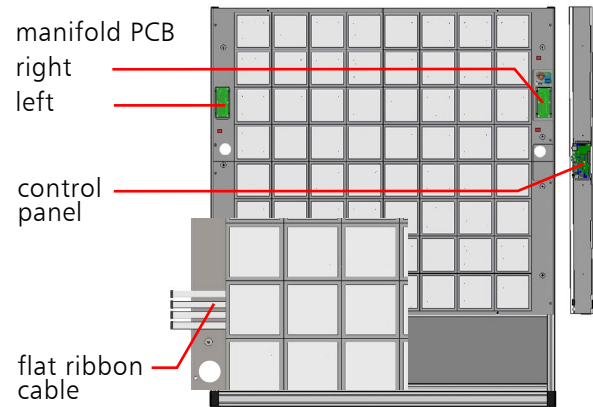
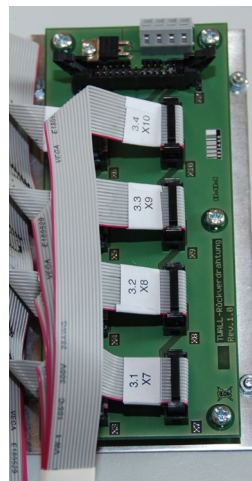

fig. 3.1-31
fig. 3.1-32
**Step 24** You can find four (4) **14-stranded** flat ribbon cables at each basic module to connect them to the manifold PCBs (**fig. 3.1-32 and 3.1-33**). The cables are marked as 0.1 - 0.4, 1.1 - 1.4, 2.1 - 2.4 and 3.1 - 3.4 as well as the appropriate plug number. Now put the flat ribbon cables on the manifold PCBs. The PCB for the two (2) right upper basic modules can be found at the right upper basic module, the PCB for the two (2) left basic modules are located at the left upper basic module (**fig. 3.1-31**).